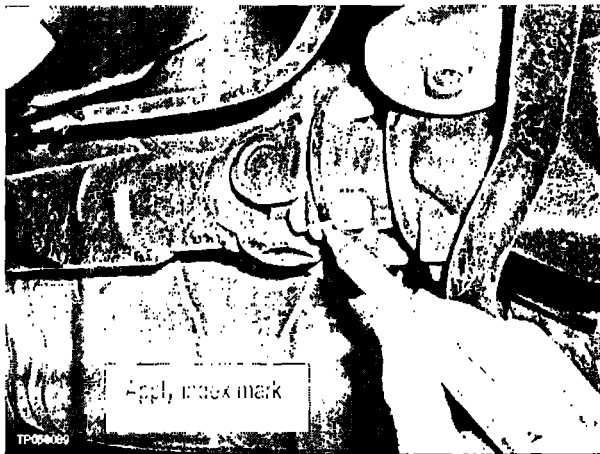

Figure 19a
24. Apply an "index" (line up) mark across the propeller shaft and differential pinion flange for correct re-assembly (see Figure 19a).